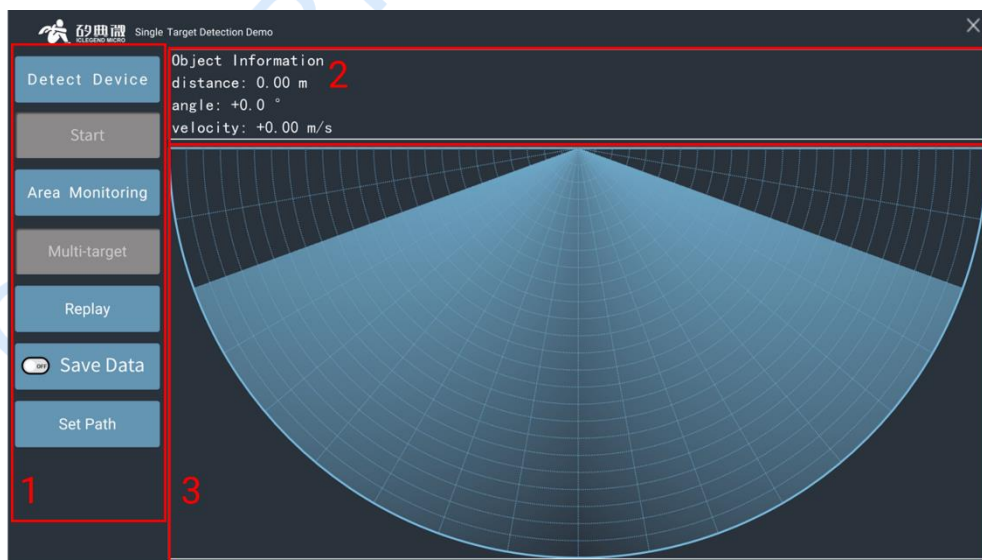

Figure 4-7 The default working mode of Indoor Multi-Human Tracking demonstration
No extra configuration is needed for running the Indoor Multi-Human Tracking demonstration. The default working mode of this program is Single Target Detection, as shown in Figure 4-7.
As shown in Figure 4-7, the Indoor Multi-Human Tracking GUI can be partitioned into 3 zones: Operation Zone (1), Results Display Zone (2) and Position Display Zone (3). Functions of each zone are explained in
- Step 2: Double click "*EVB1122 Waveform Configuration and Demonstration GUI.exe*" to start the program, click the **Demo** menu and choose the **Indoor Multi-Human Tracking** submenu, and the demonstration window will appear, as shown in Figure 4-7;